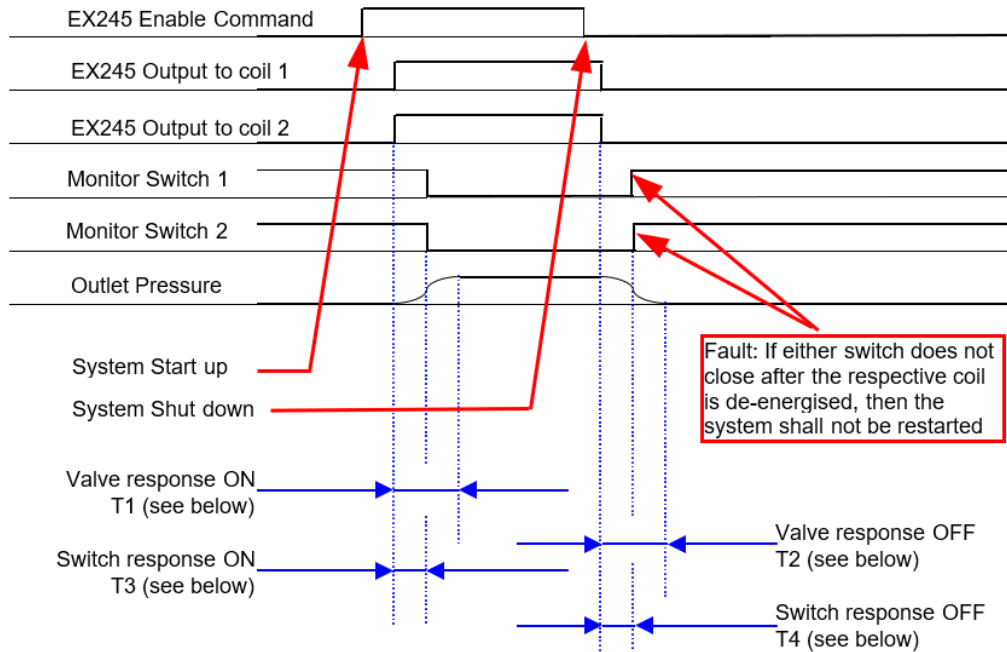

Figure 1
Figure 1 shows the relationship between the valve operation, switch outputs and system pressure.
* The cycle time of PLC and the internal processing time etc. of EX245 are added besides the time that has been described to above-mentioned Figure 1.